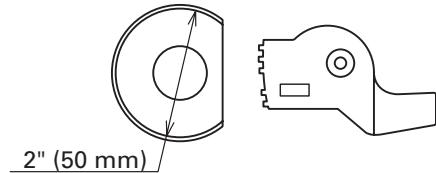

Fig. 26
- (2) Center Roller (D 50) Set (Fig. 26)(Code No. 321446)
- (3) Center Roller (D 38) Set (Fig. 26)(Code No. 321445)